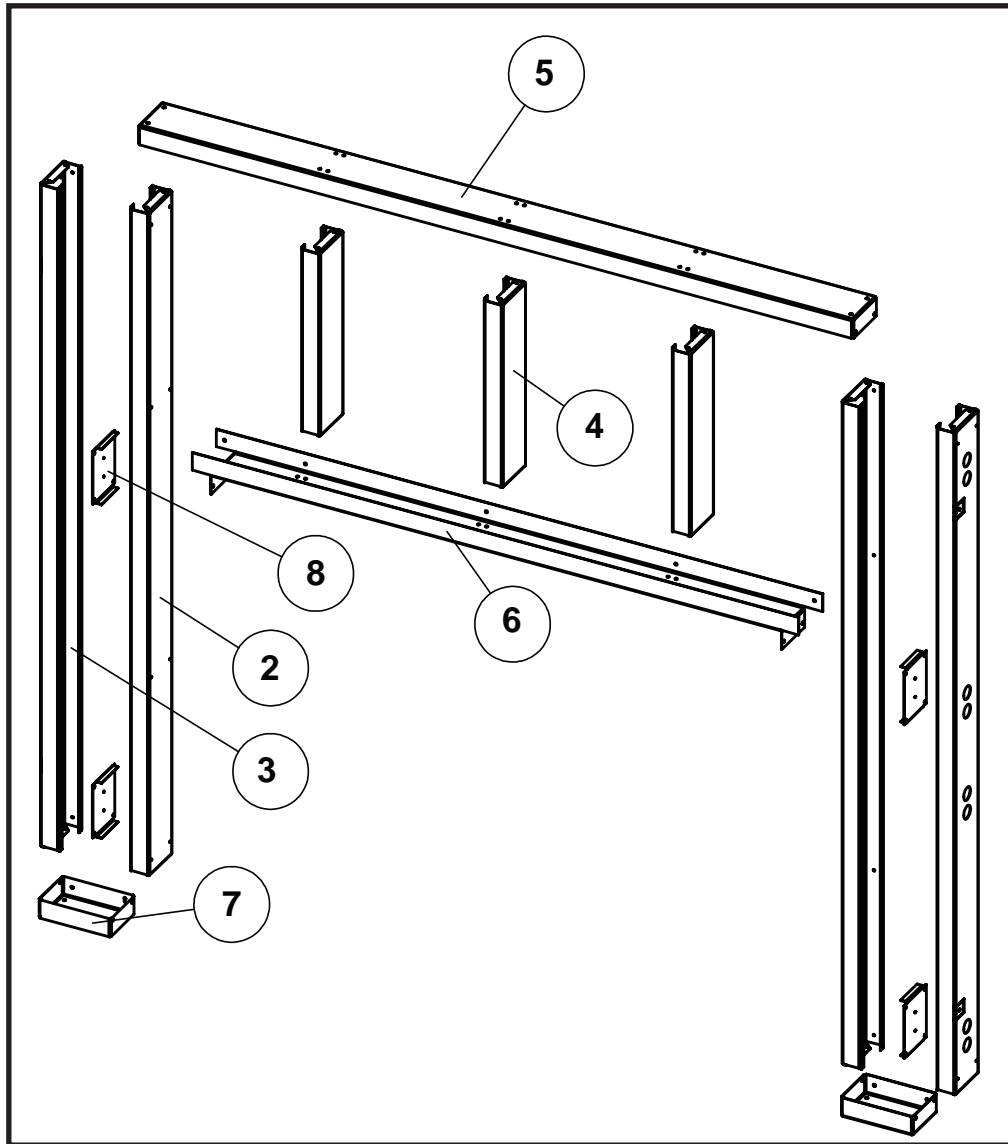

Figure 15: TC54 Steel frame assembly.
- Lay out the horizontal header stud (5) on a large flat surface. (Position all pieces on their narrow edges as shown in the illustration in Figure 15).
- Position the three short, vertical center studs (4) perpendicular to the horizontal header stud, and align with the corresponding sets of screw holes. Fasten with the screws (1) provided.
- Position the shorter horizontal plate stud (6) at the bottom end and perpendicular to the vertical center studs (4). Align the bottom ends of the vertical center studs to the corresponding sets of screw holes and fasten with the screws provided.